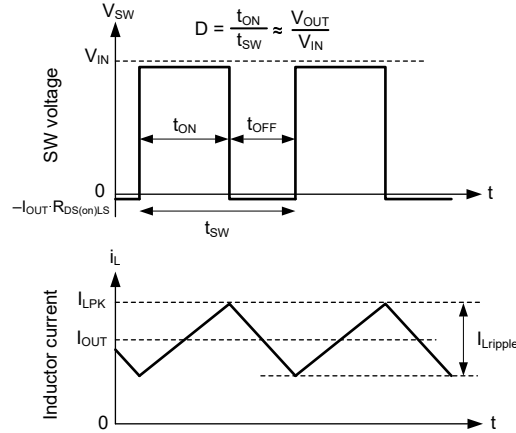

图 7-20. SW Voltage and Inductor Current Waveforms in Continuous Conduction Mode (CCM)
The following operating description of the converter refers to the Functional Block Diagram and to the waveforms in 图 7-20. In CCM, the converter supplies a regulated output voltage by turning on the internal high-side (HS) and low-side (LS) NMOS switches with varying duty cycle (D). During the HS switch on time, the SW voltage, V_{SW} , swings up to approximately V_{IN} , and the inductor current, i_L , increases with a linear slope. The HS switch is turned off by the control logic. During the HS switch off time, t_{OFF} , the LS switch is turned on. Inductor current discharges through the LS switch, which forces V_{SW} to swing below ground by the voltage drop across the LS switch. The control loop adjusts the duty cycle to maintain a constant output voltage. D is defined by the on time of the HS switch over the switching period: